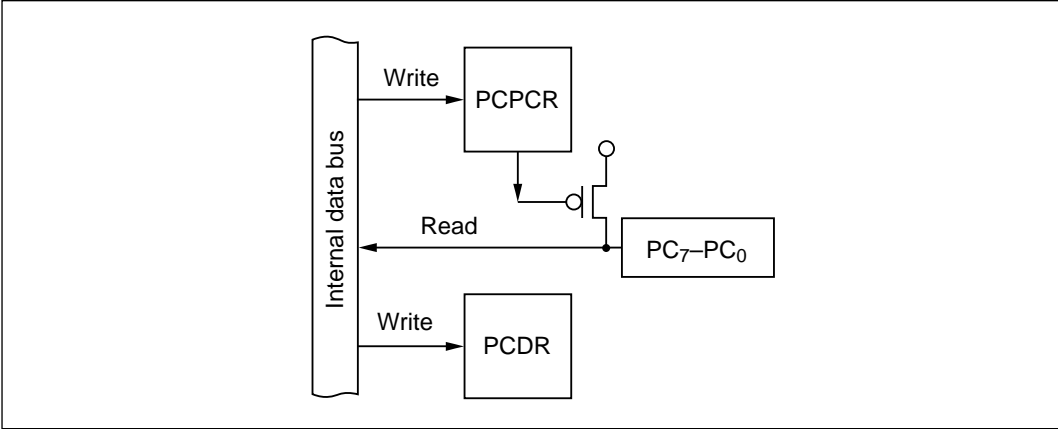

Figure 10-88 Input Port with Built-In Pull-Up Transistors (Mode 7)
(2) **Input Port with Internal Pull-Up (All Pins: Mode 7):** Figure 10-88 shows a block diagram illustrating the general-purpose input function of port C using the built-in input pull-up transistors. Table 10-66 indicates register read/write data. Values written in the port C data register (PCDR) have no effect on general-purpose input lines. When read, PCDR returns the value at the pin. When a bit in the port C pull-up transistor control register (PCPCR) is set to 1, the corresponding PCDR bit always reads 1.